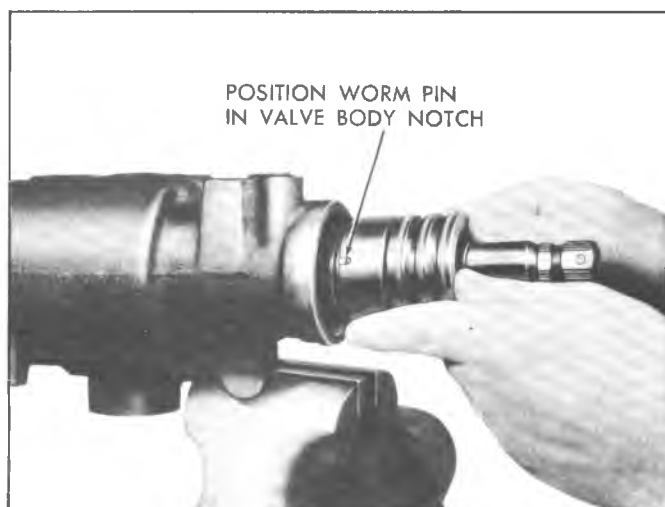

Fig. 55--Valve to Worm Alignment
2. Lubricate the valve body teflon rings and a new stub shaft cap "O" ring with Power Steering Fluid. Install the stub shaft cap "O" ring in the valve body so it is seated against the stub shaft cap. Align the NARROW NOTCH in the valve body with the pin in the worm, then install the valve and stub shaft assembly in the gear housing (fig. 55). Apply pressure to the VALVE BODY when installing. If pressure is applied to the stub shaft during installation, the stub shaft may be forced out of the valve body (fig. 56).